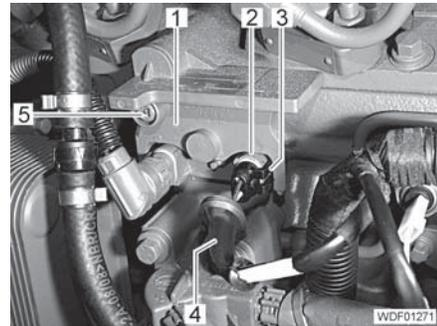

Fig. 17 LDA (alternative)
- Pull back the plug protection (Fig. 17,4).
- Unscrew the screw (Fig. 17,5).
- Remove the locking plate (Fig. 17,1).
- Release (Fig. 17,2) and remove the connector (Fig. 17,3).